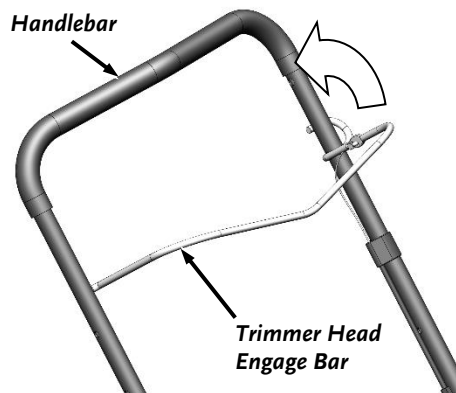
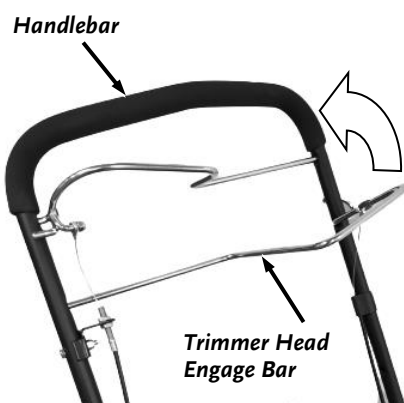

Figure 14
Figure 15
1. Bring the Trimmer Head Engage Bar toward you and grip it together with the Handlebar (non self-propel **Figure 14**) (Self Propel **Figure 15**). Keep holding the Bar to the Handlebar. The Cutting Cords will rotate and will continue to rotate until you release the Bar.